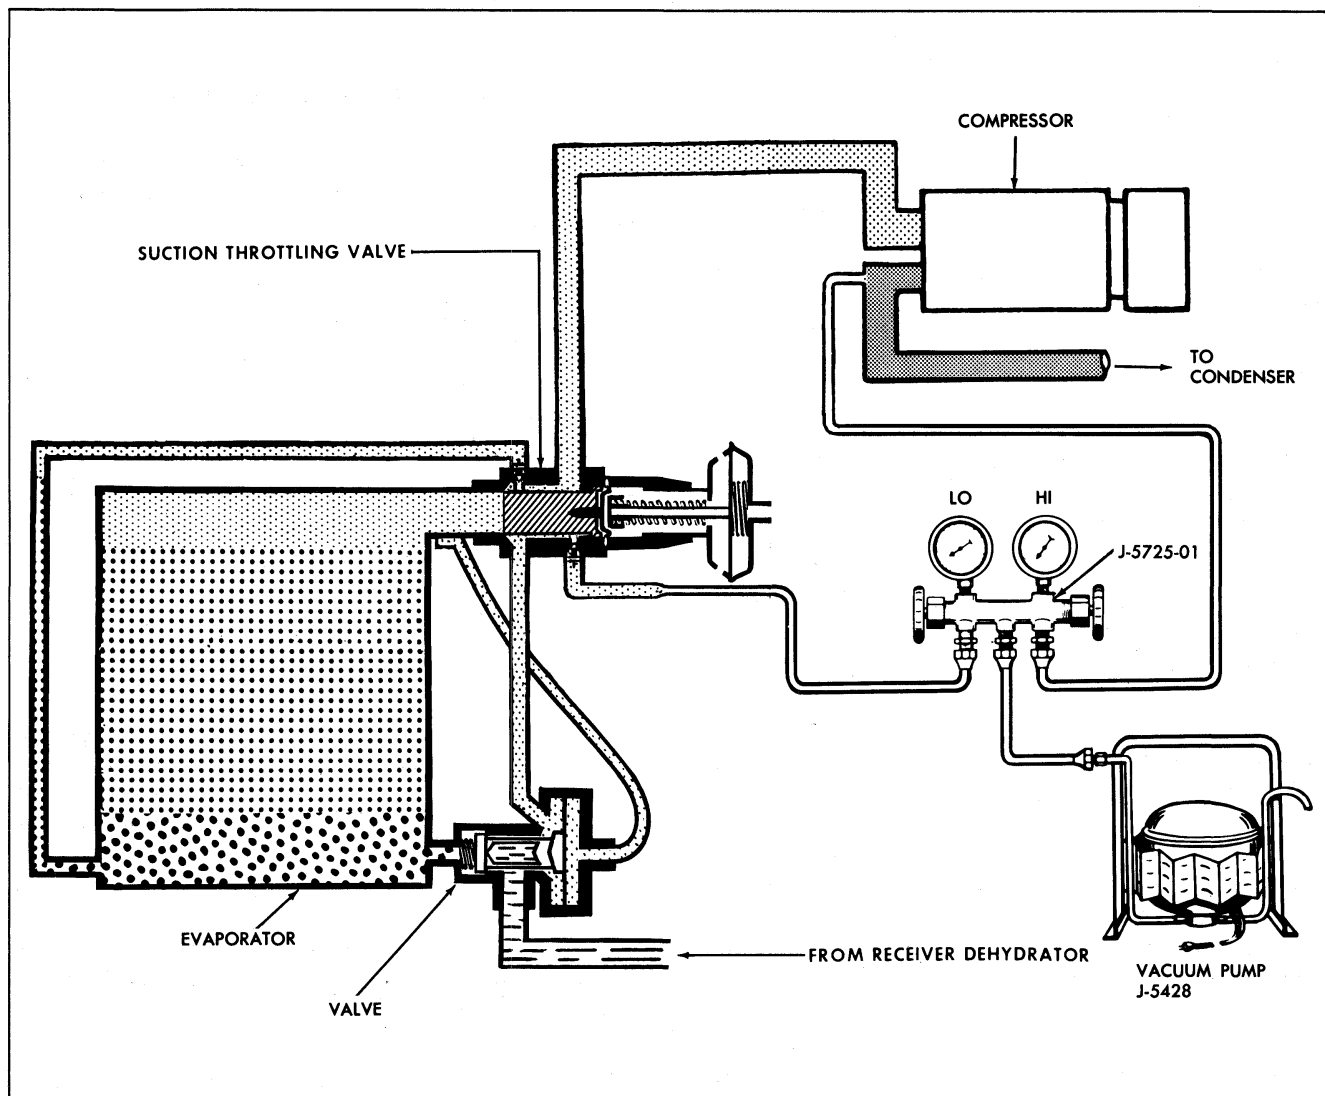

Fig. 5-2 Schematic - Evacuating Refrigeration System
2. If gauge set is not already connected to the suction throttling valve and compressor, connect as follows (Fig. 5-2).
of the gauge set and attach the other end of this hose to the vacuum pump J-5428 or J-5428-01 (Fig. 5-2).